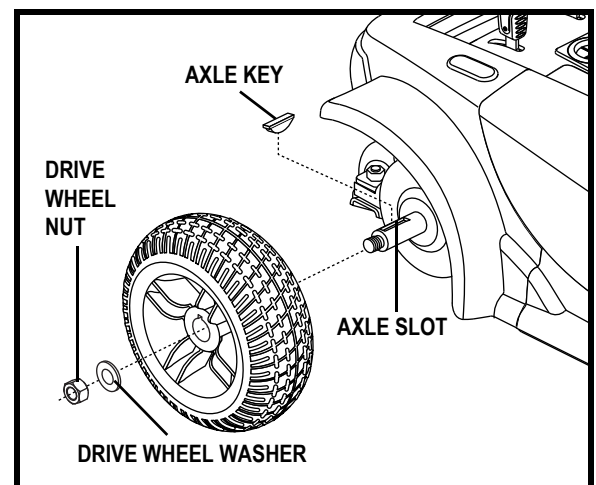

Figure 21. Go-Chair Drive Wheel
3. Remove the drive wheel nut and washer from the axle. See figure 21.